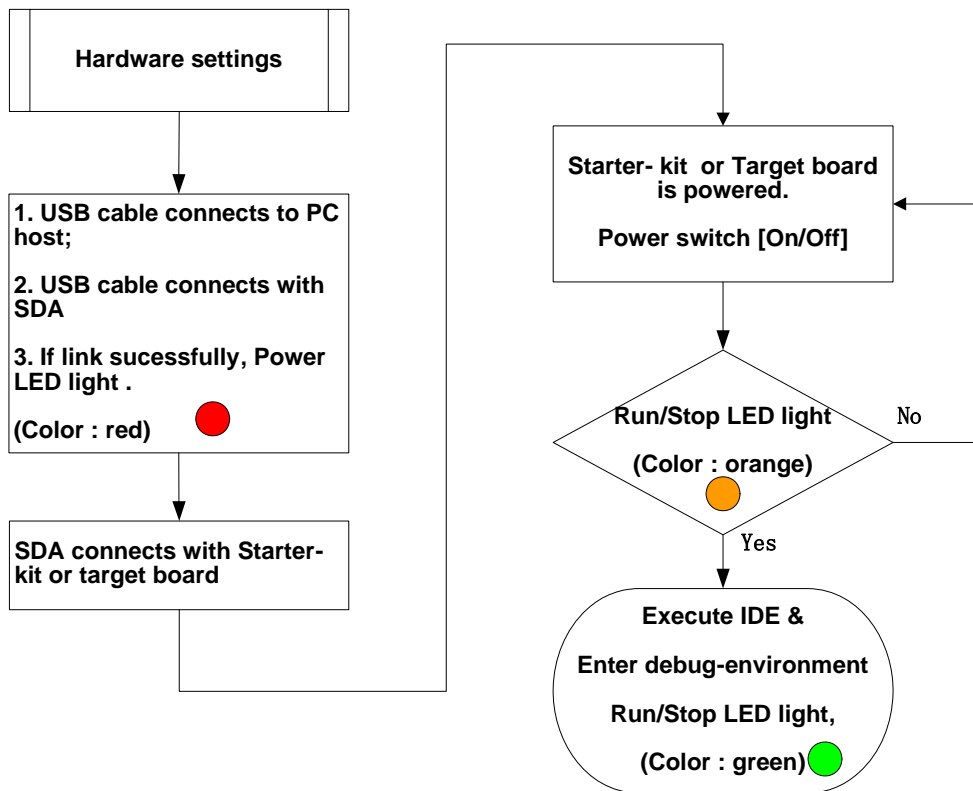

Figure2-2 Hardware installation flowchart
- **Note: Power on target board after SDA connected successfully with PC, please refer to figure 2-2.**